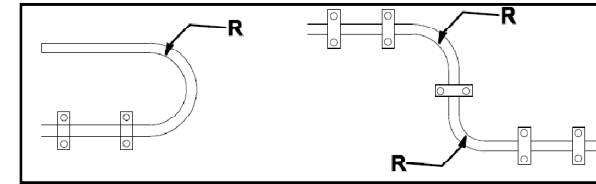

Figure 3
**Reader head:** Standard gap between reader head and scale should be as per Figure 2. A plastic shim is provided to maintain this gap between reader head and scale during installation. Refer Figure 3 for further alignment data.
- ☞ The bending radius should not be less than 60mm as shown in Figure 3.